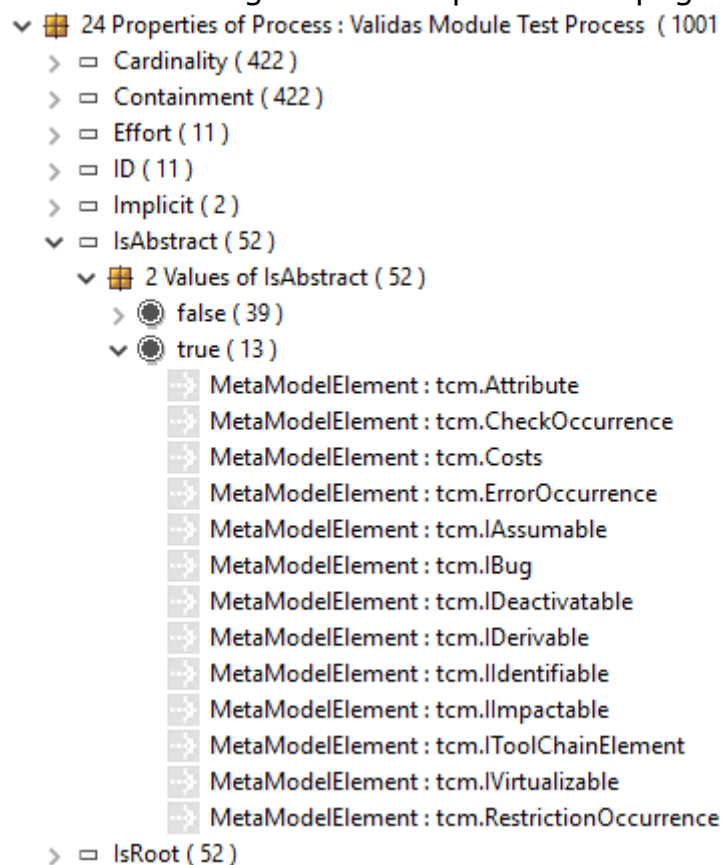

Figure 47: Global Attribute Property Projection Group
For every property, the values () are listed that have been found during projection, e.g. "true (13)" in Figure 47. Below that, the values pointers () to the occurrences are listed with their types and names, e.g. "MetaModelElement: tcm.Attribute". The pointers can be used with a double click to navigate in the browser to the elements with that value. On the right upper corner there is an icon that can be used to freeze the current model projection. Otherwise model projection will always be recomputed based on the current selection in the browser.
- Display global attribute properties: If this is selected, there will be a global attribute properties projection group in the root of the projection, see Figure 47. It contains all attribute properties of all classes.